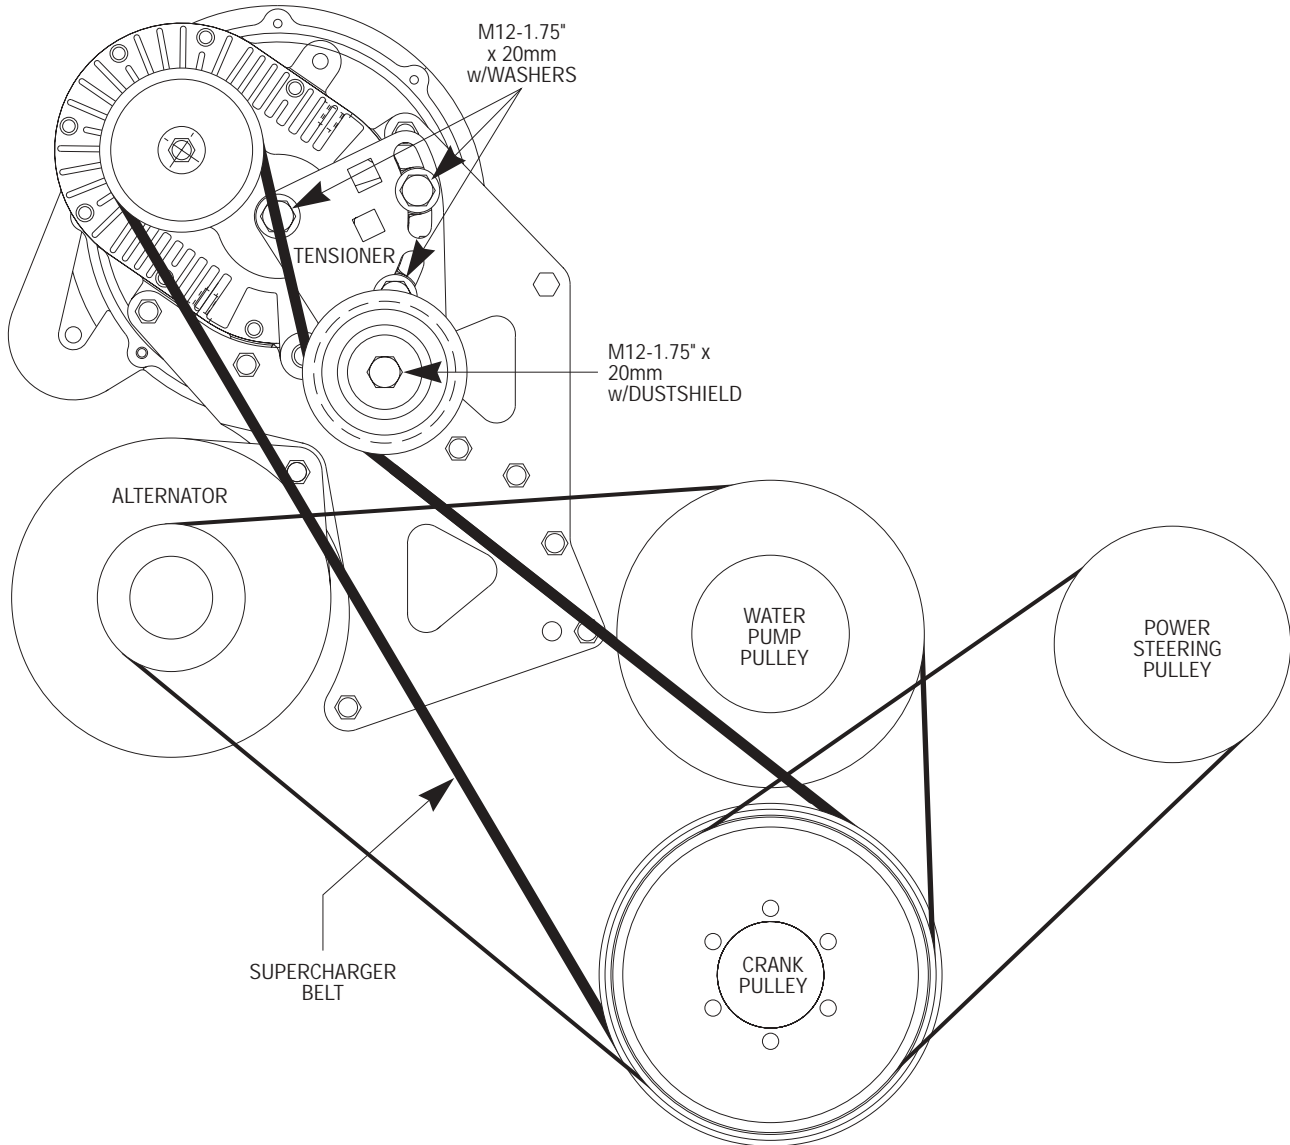

Fig. 6.2-a / Belt Routing With A/C
- A1.** Loosely install the three supplied 12mm bolts through the tensioner plate and into the supercharger cover. Install the idler and spacer onto the front side of the plate in one of the holes provided. (See Fig. 6.2-a.)
- A.** Install the power steering, alternator and supercharger drive belts and tension each. (Do not over-tension the supercharger drive belt. Press down firmly on the idler while tightening the three tensioner plate bolts). (See Fig. 6.2-a.)